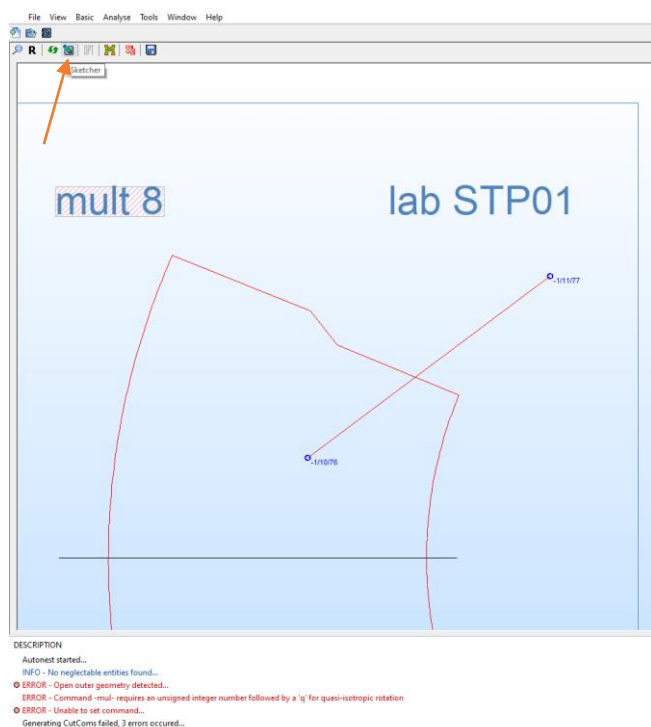

Figure 150
10. To resolve these errors, switch back into the Standard Sketcher with  or using shortcut **-S-** (Figure 150).